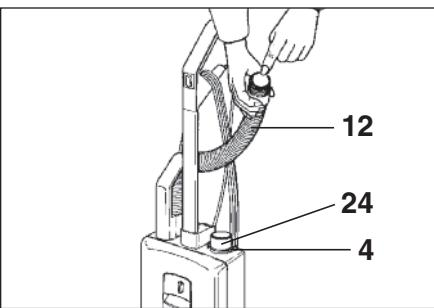

Figure 14
### Clogs in the Attachment Hose - *Figure 14*
Remove attachment hose (12) from vacuum cleaner (see figure 14) and remove front cover (7). Clean out connecting tube (24) and/or entrance to bag (40).